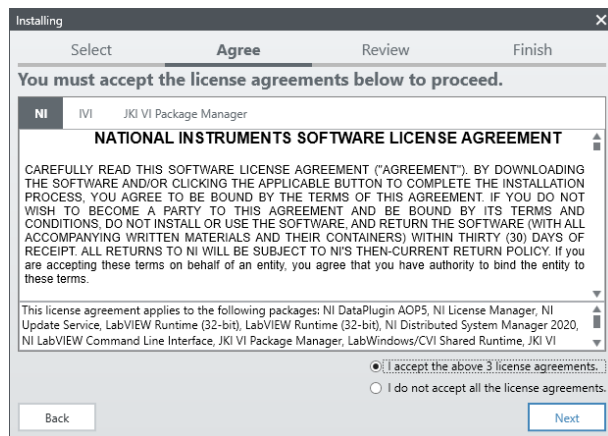
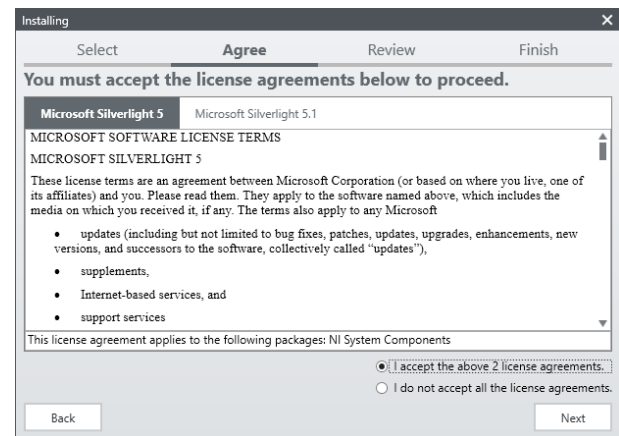

Figure 2-15 LabVIEW license agreement
Figure 2-16 Microsoft license agreement
9. As in NI Package Manager, the license agreement will be displayed. Read the license agreement and if you agree, click Next (Figure 2-15, Figure 2-16).